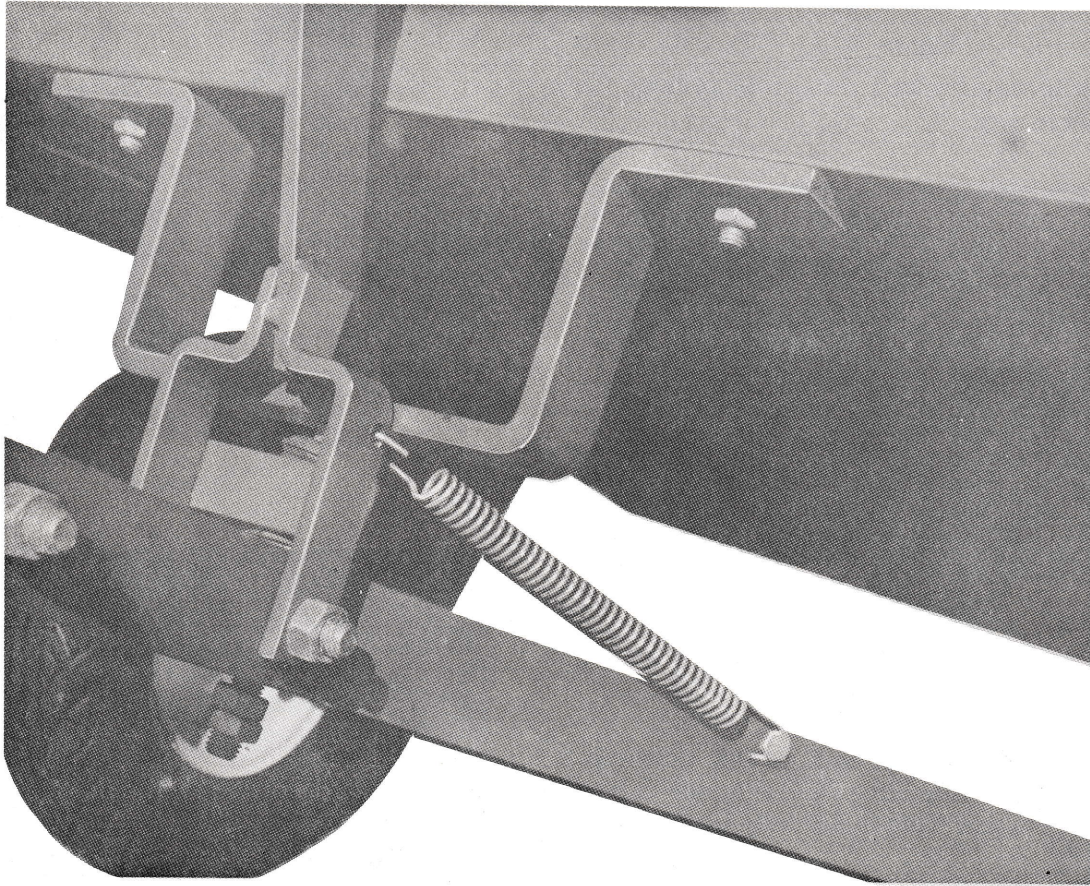

Figure 6
7. Install the drawbar using the 4½" and 3½" bolts. Install the 3½" bolt through the front hole securing the drawbar braces to the drawbar. Position the handle assembly over the rear hole and secure in place with 4½" bolt. Tighten the front bolt securely. Tighten the rear bolt enough to hold the drawbar in place but allow the handle assembly to pivot. See Figure 6.
10. Attach the spring from the handle to the drawbar brace as shown in Figure 6.